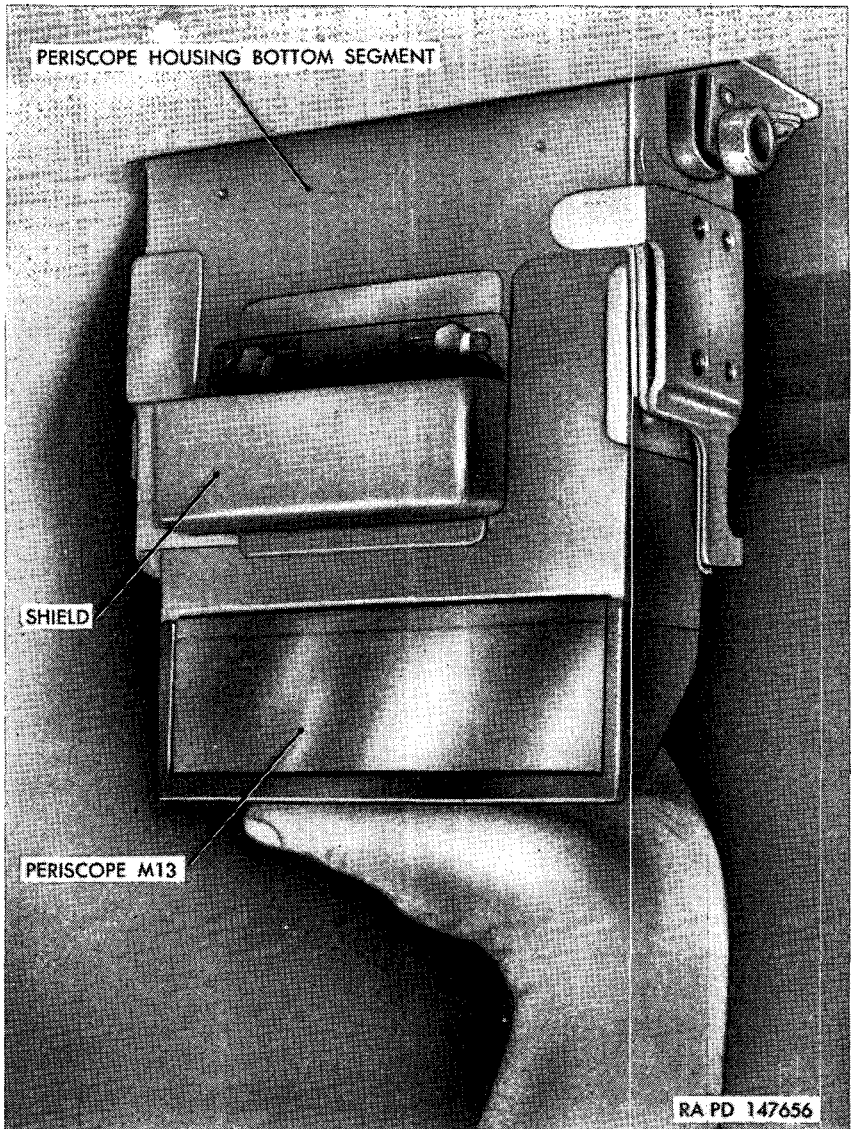

Figure 66. Installing periscope M13.
- (1) Insert the plug from the instrument light D78454 into the receptacle on the side of the azimuth indicator T24.
- (2) Snap on the toggle switch of the instrument light to illuminate the scales of the indicator.
f. PERISCOPE M13, M13B1, or M6 (fig. 66).